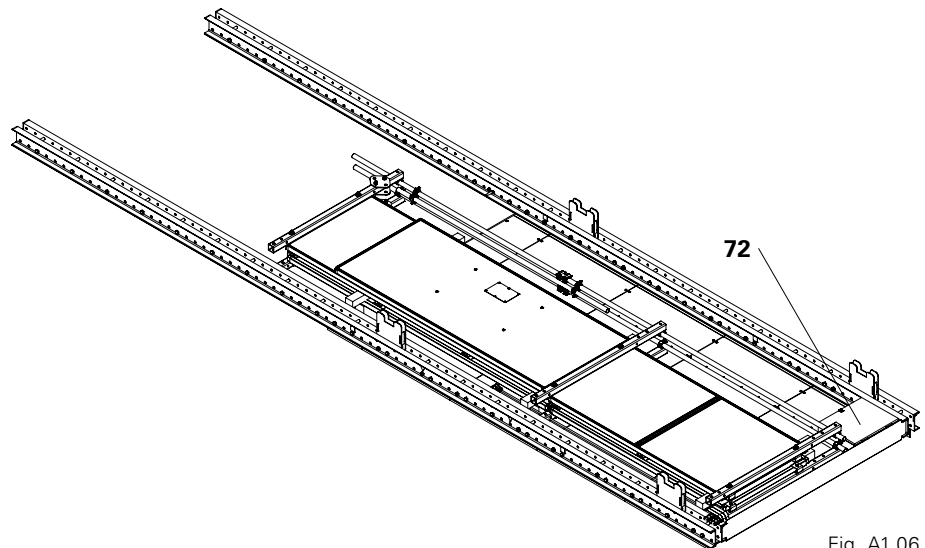

Fig. A1.06
Use the Material Box RCS-MP (72) for screws and small components. The box is placed next to the Side Mesh Barriers. (Fig. A1.06)